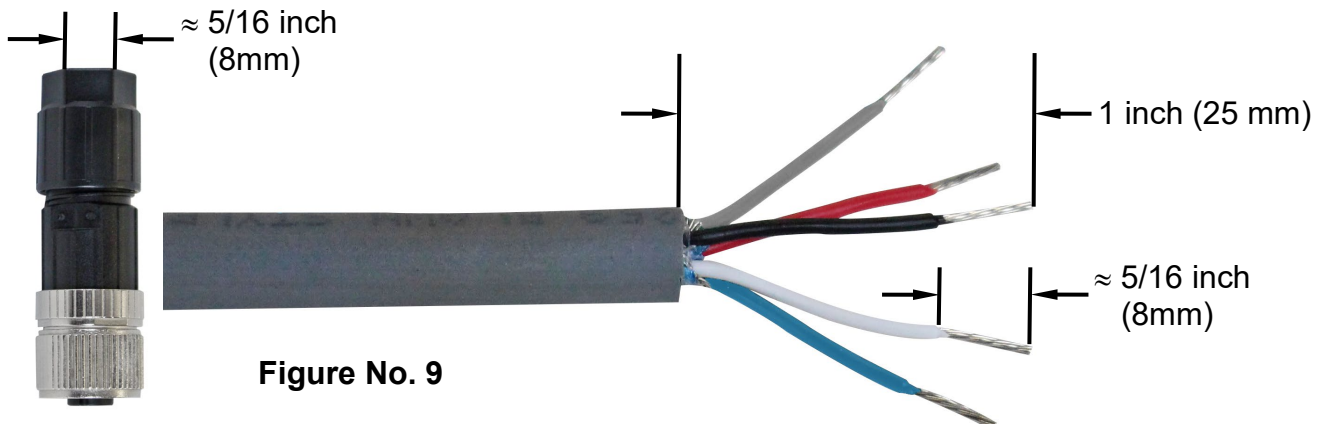

Figure No. 9
3. Next, referring to Figure No. 9, remove approximately 5/16 inches (8 mm) of insulation from each of the five wires. **NOTE:** The hex part of the black plastic cable clamp is approximately 5/16 inches (8 mm) and can be used as a guide for stripping the wires.